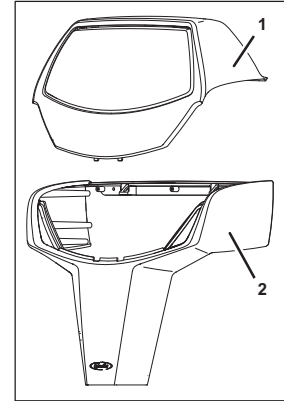

Fig. 29
5. Lift and remove the taxi cab hood (Fig. 29/1) from the front panel (Fig. 29/2).
16. Position the taxi cab hood (Fig. 29/1) on the front panel (Fig. 29/2).